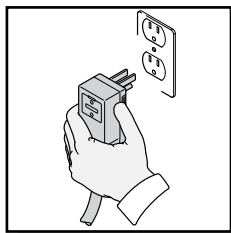

Fig. 16
- Unwind the power cord completely and plug the GFCI into a grounded 120 volt outlet. Press the 'reset' button on the GFCI box (Fig. 16). The indicator window should show a red color. This must be done each time the unit is plugged in.